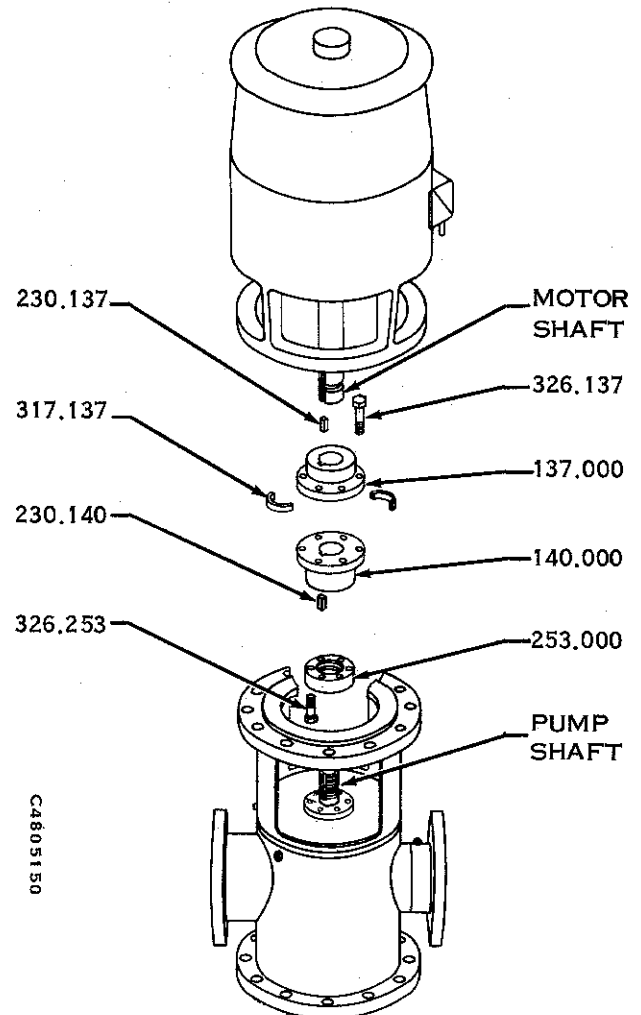
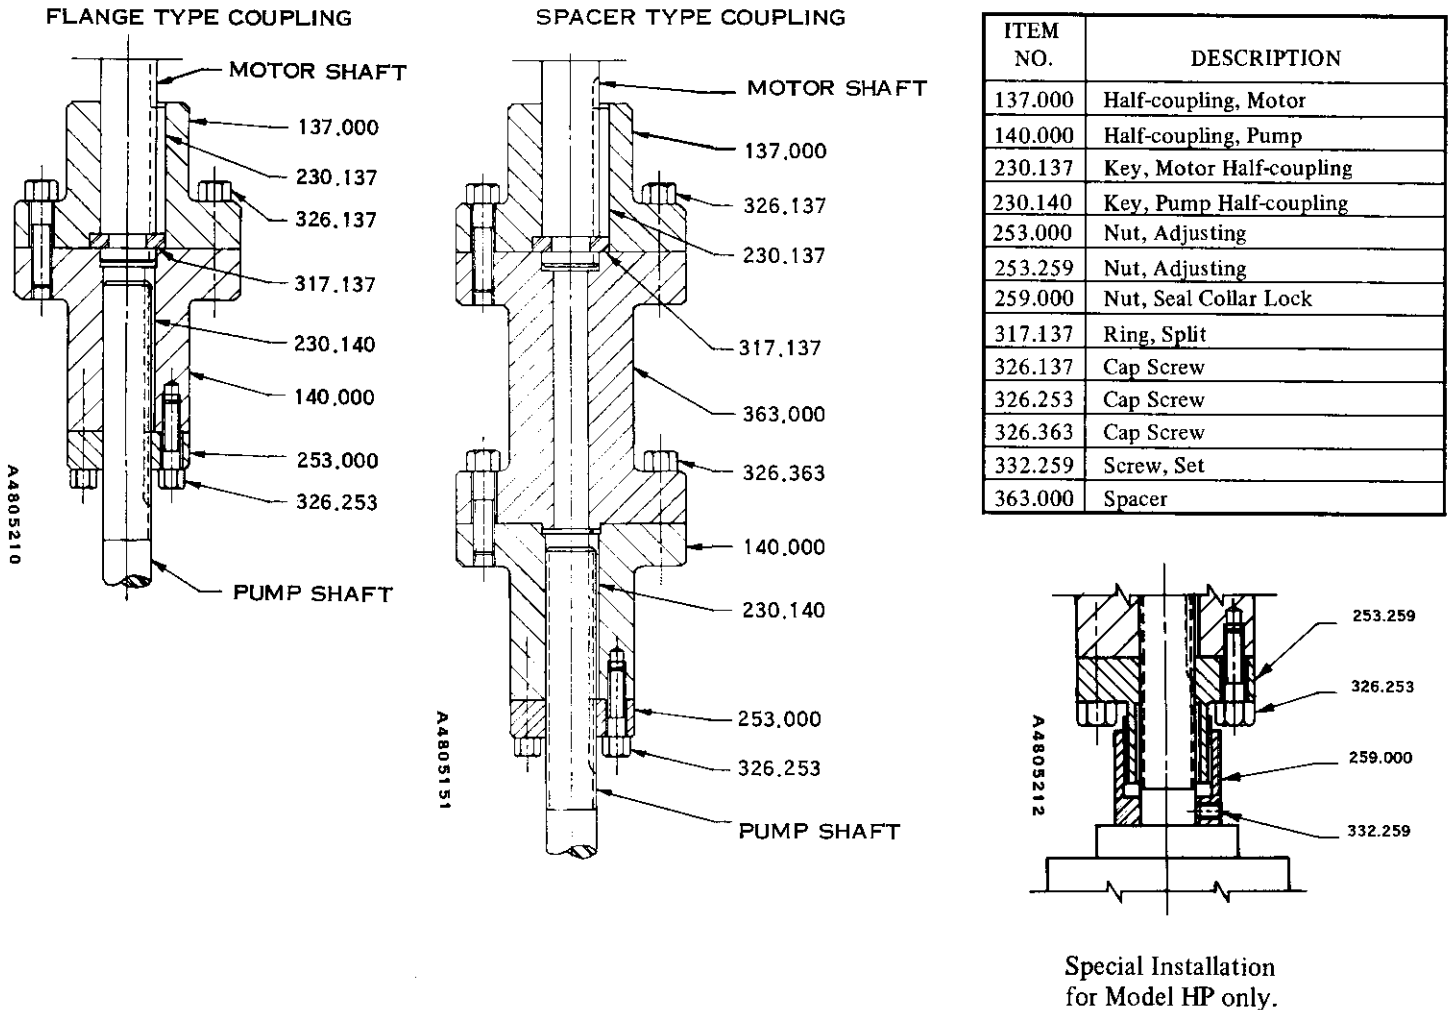

Fig. 7-1: A typical solid-state motor installation – exploded view. Plain flange coupling shown.
Fig. 7-2 Sectional views of couplings used with solid-shaft motors.
A typical solid-shaft motor installation is shown in Fig. 7-1. The coupling between the motor shaft and the pump shaft may be a plain flange-type or a spacer-type (Fig. 7-2.) The latter is used only on units equipped with a mechanical shaft seal, to permit replacing the seal without lifting the motor. The parts involved in the installation are identified in the figures with item numbers which will be given in parentheses throughout the following paragraphs as they apply.
13. Model HP pumps equipped with mechanical seals have a special lock nut (259.000) to prevent upward movement of the seal collar. (See Fig. 7-2). When the impeller adjustment and mechanical seal adjustment have been completed, turn the seal collar lock nut downward until it is solidly against the top of the seal collar. Tighten the setscrews in the lock nut securely against the shaft.